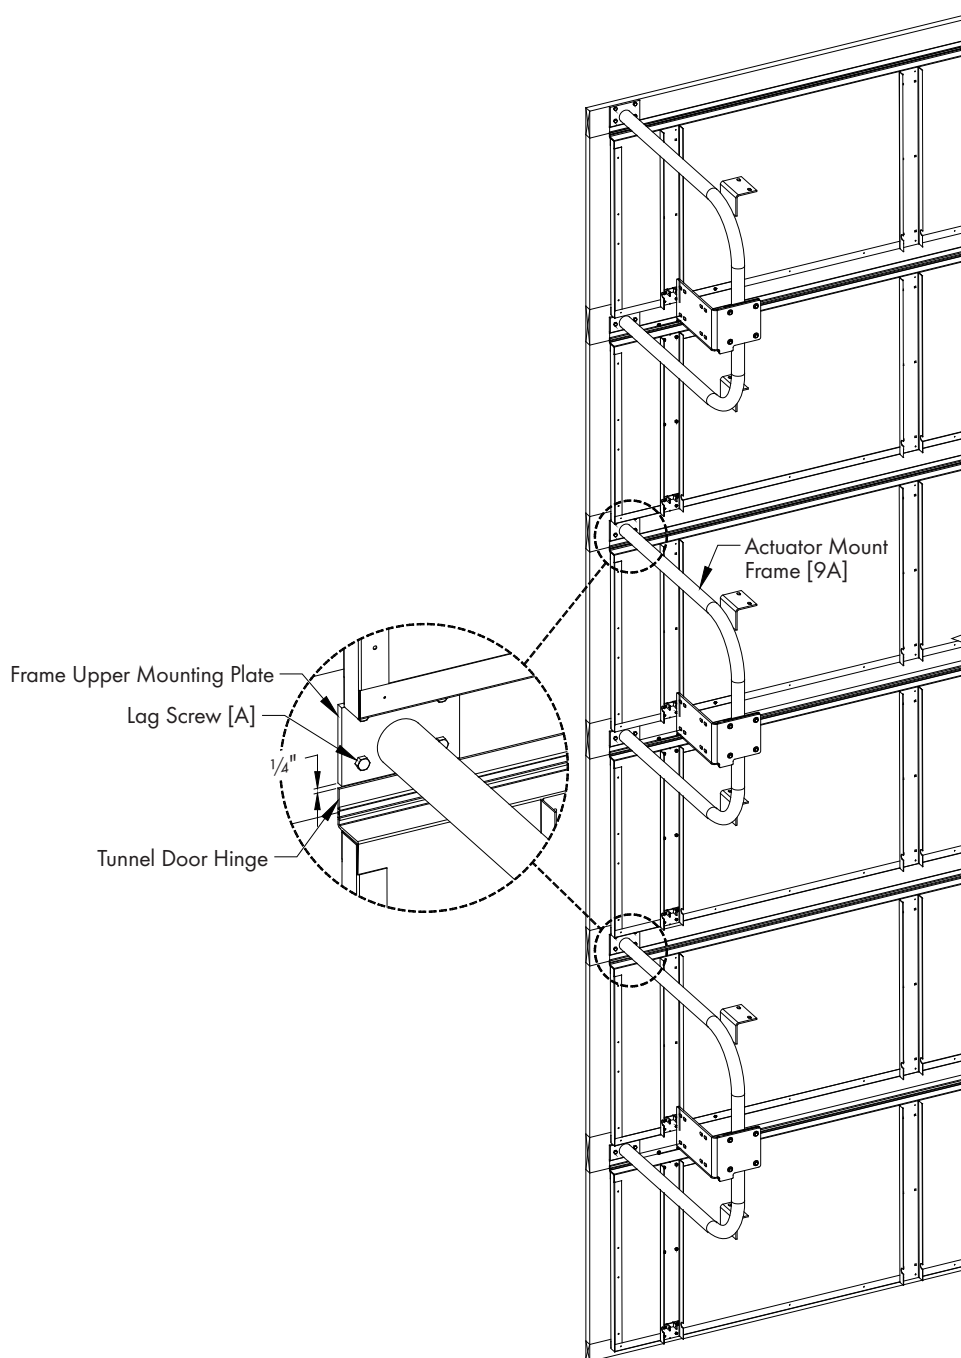

Figure 32
If there are multiple rows of doors, install the Actuator Mount Frame [9A] over the 3rd and/or 5th row of Tunnel Doors. The Upper Mounting Plate (4 holes) should mount $\frac{1}{4}$ " above the 3rd and/or 5th row of Tunnel Doors with the left edge of the Mounting plate flush with the end of the Tunnel Door. Secure in place using (6) Lag Screws [A]. See Figure 32. Repeat Steps 33 - 35 to install Drive Frames over the 3rd and 5th rows of Tunnel Doors.